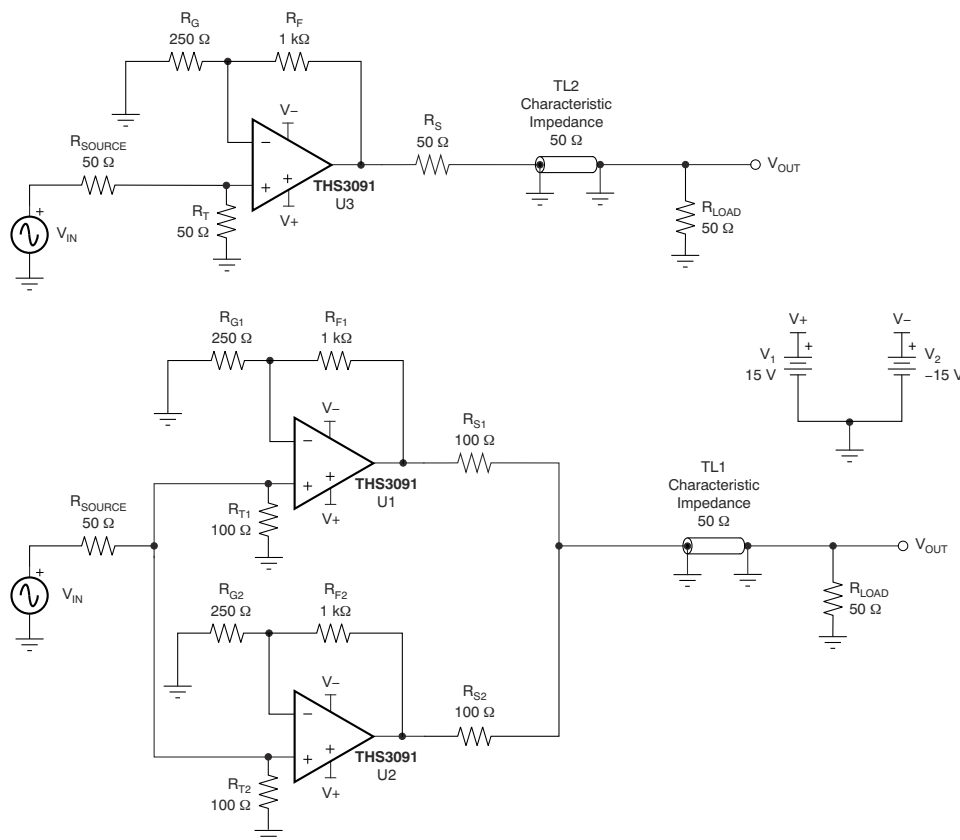
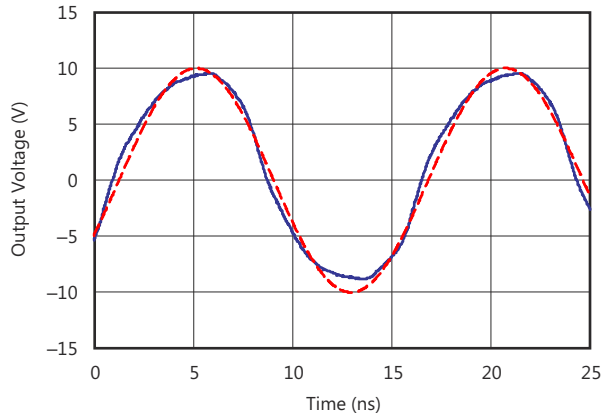
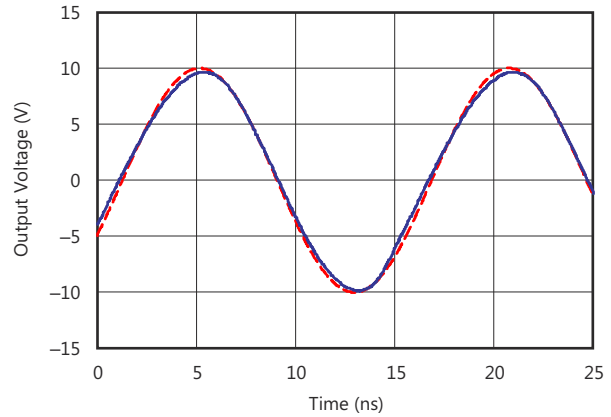

Figure 9-1. Reference THS3091 and THS3091 Load Sharing Test Configurations
Figure 9-4. 64-MHz Sine Wave Output (Gain = 5 V/V, Signal Amplitude Referred to Amplifier Output), Single THS3091 Circuit Configuration
Figure 9-5. 64-MHz Sine Wave Output (Gain = 5 V/V, Signal Amplitude Referred to Amplifier Output), Two THS3091 Amplifiers in Load Sharing Configuration
The fundamental concept of load sharing is to drive a load using two or more of the same operational amplifiers. Each amplifier is driven by the same source. Figure 9-1 illustrates the schematic for this design. This concept effectively reduces the current load of each amplifier by $1/N$, where N is the number of amplifiers. For further details on the design and performance of this circuit, see the Reference Design for Implementation of the Load Sharing Concept for Large-Signal Applications.
As shown in Figure 9-1 for example, in a two-amplifier load sharing configuration with matching resistance driving a resistive load (RL), each series resistance is $2 \times RL$ and each amplifier drives $2 \times RL$. A convenient indicator of whether an op amp will function well in a load sharing configuration is the characteristic performance graph of harmonic distortion versus load resistance. Figure 7-9 and Figure 7-10 show more information. Such graphs can be found in most of TI's high-speed amplifier data sheets. These graphs can be used to obtain a general sense of whether or not an amplifier will show improved distortion performance in load sharing configurations.
Figure 9-1 shows two test circuits: one for a single THS3091 amplifier driving a double-terminated (50-Ω cable), and one with two THS3091 amplifiers in a load sharing configuration. In the load sharing configuration, the two 100-Ω series output resistors act in parallel to provide 50-Ω back-matching to the 50-Ω cable.
Figure 9-4 and Figure 9-5 show the 64-MHz sine wave outputs of the two configurations from Figure 9-1. While the single THS3091 output is clearly distorted in Figure 9-4, the output of the load sharing configuration in Figure 9-5 shows only minor deviations from the ideal sine wave.